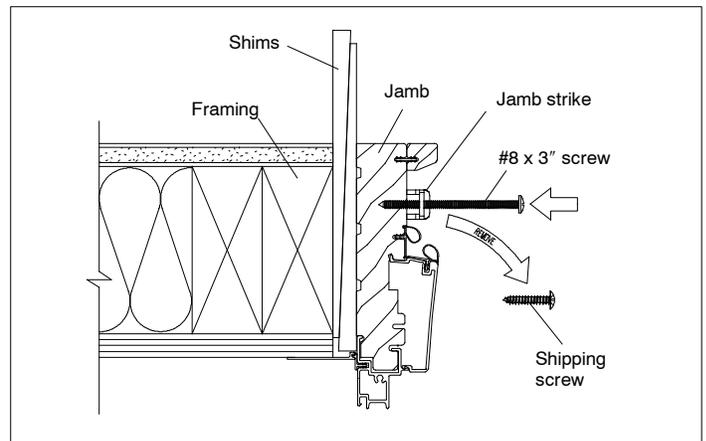

Figure 3: Installing screws.
1. Ensure that shims have been properly placed behind the jamb strike between the door jamb and stud wall. See figure 3.
2. Replace the 4 short shipping screws in the jamb strike with the supplied #8 x 3" pan head screws. See figure 3. Adjust jamb strike, if necessary, up or down to ensure smooth engagement of the jamb lock into the jamb strike.